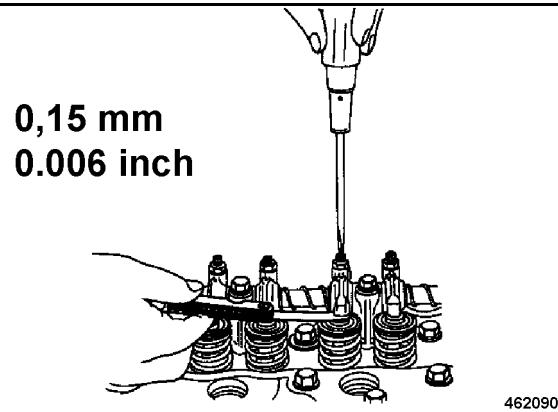

Fig. 120
- Check the gap between rocker arm and valve with a feeler gauge (Fig. 120).